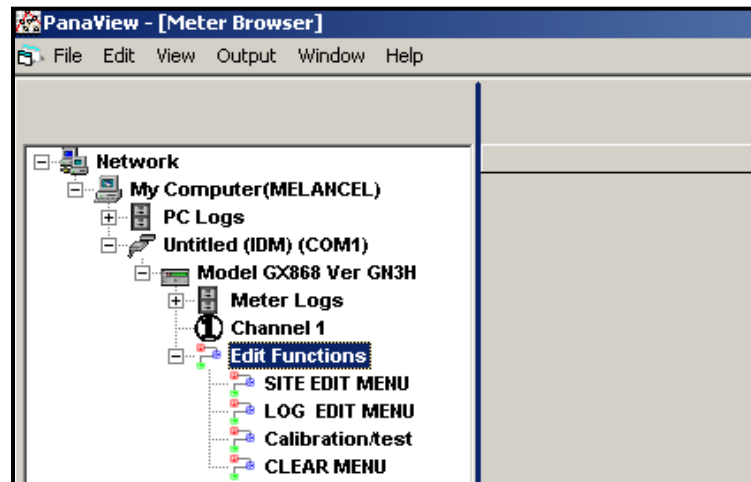

Figure 35: Meter Tree with *Edit Functions* Option
4. From the meter tree, expand the *Edit Functions* option. The window now appears similar to Figure 35 below, with a list of available menus. The menus listed are those available on the meter.